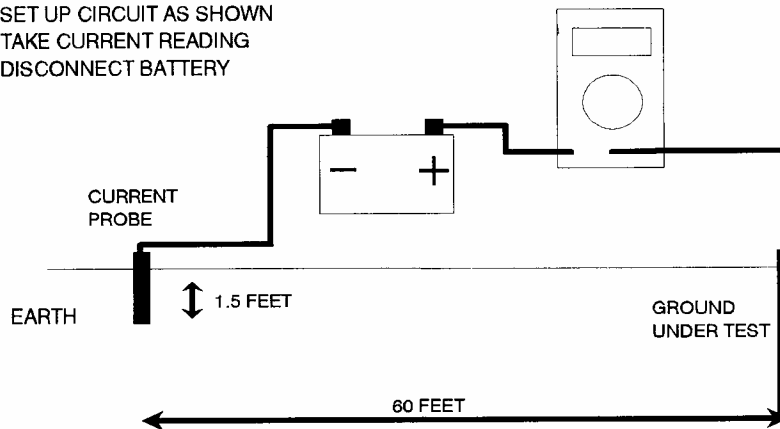

Figure 27 – Current measurement
Place all of the probes in a straight line with respect to the earth grounding electrode being tested. Place the current probe about 60 feet away and the potential probe at 0.62 times this distance from the ground rod under test (about 36 feet). Drive in the current and potential probes about 1½ feet. Connect the wire as shown in figure 27.
1) Place current probe, the multimeter and the battery in series with the ground under test (see figure 27). It is important to place the probes in a straight line with respect to the ground rod under test. Record the current reading. Disconnect the battery.